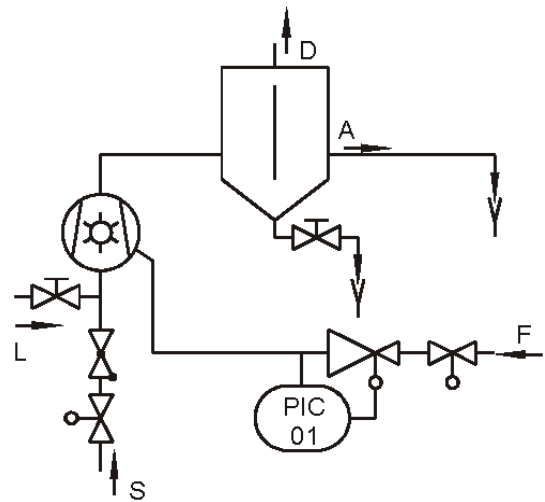

Fig. 12 Continuous-flow cooling
- ▶ Set the pressure in the operating liquid pipe to max. 3 PSI overpressure (→ Diagram Fig. 12).